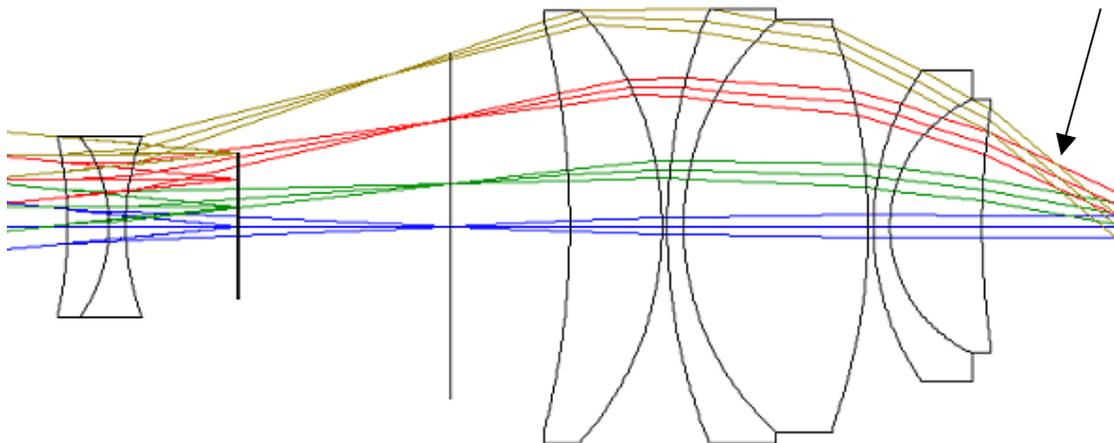

Figure 4. Spherical aberration of exit pupil in Nagler (Type 1) eyepiece (USP #4286844 scaled to 13mm)
5) *Spherical aberration of the exit pupil.* In the discussion above about eye relief, an assumption was made that all light goes through a little disk called the exit pupil. Your eye's iris, if placed right at the exit pupil, will then see all the light transmitted by the eyepiece. This assumption is not necessarily true. If the light is skewed off-axis, then a unique exit pupil is not a good approximation to what is happening. The way you tell if your eyepiece has spherical aberration of the exit pupil is to draw your eye behind it about a foot and locate it hovering above the last glass surface. It may help to brace a little toothpick or something against the eyepiece and place it right at the center of the exit. Then move your eye sideways and see if the exit pupil shifts sideways or seems stuck on the toothpick. If it shifts badly it either is exhibiting strong spherical aberration or the toothpick is placed at the wrong position. The effect of a significant shift is to possibly induce an effect called "kidney-beaning." If the eye is not placed just at the correct point, a bean shaped dark area shows up in the field of view. An eyepiece that showed this effect easily was the Nagler Type 1. (Actually, this eyepiece was never called a "Type 1," just a "Nagler," but when the Nagler Type 2 came out, this nomenclature became easy to extend.) The arrow of Fig. 4 shows the brown and red outer bundles (at 25 and 40 degrees apparent field radius) crossing at a point off the axis. The green bundle (10 degrees) has a far lower amount of side-shift compared with the blue bundle.